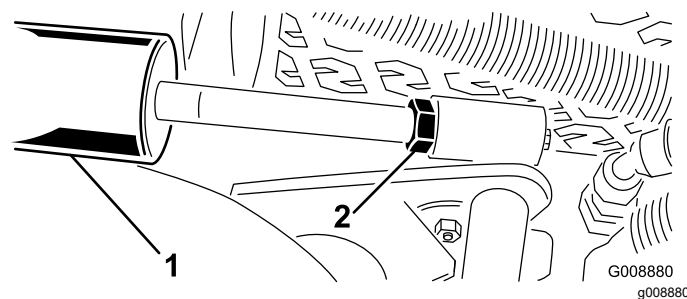

Figure 15
A. Lower the cutting units and back off the jam nut on the cylinder (Figure 15).